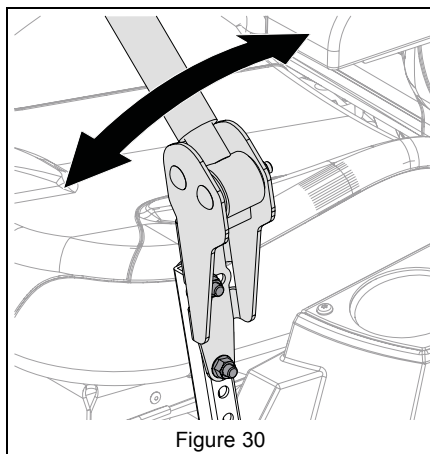

Figure 30
8. Loosen mounting hardware, align levers and tighten hardware. See Figure 30.